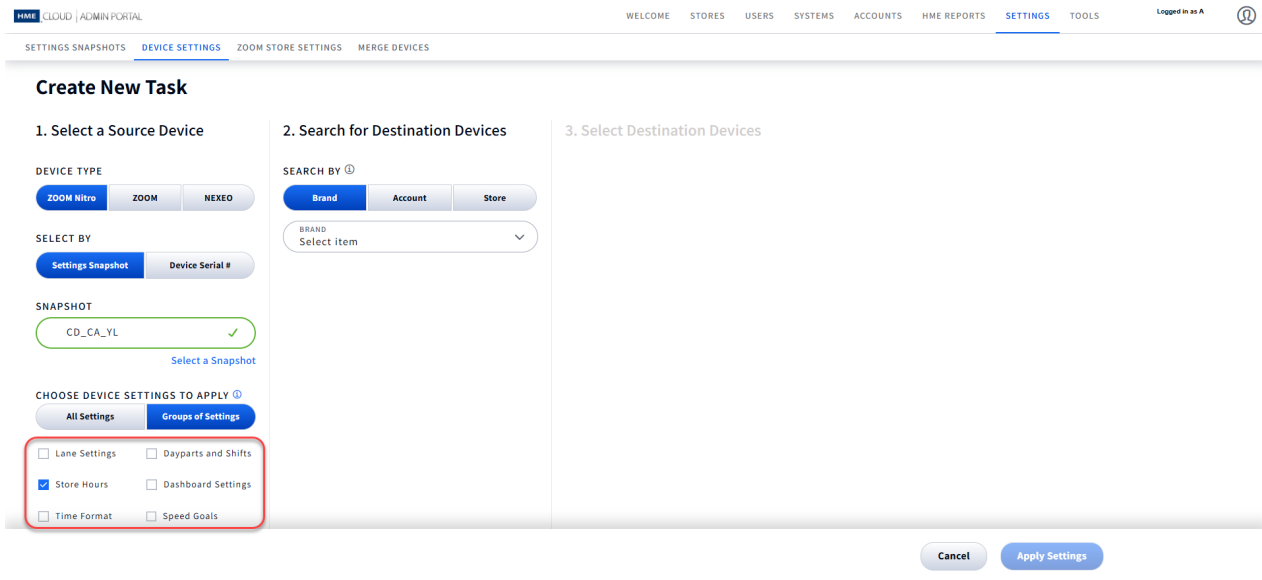

Fig. 13.12
9. All the listed settings in Fig. 13.12 are configured through the ZOOM Nitro dashboard. Here is a brief description of each of the settings.